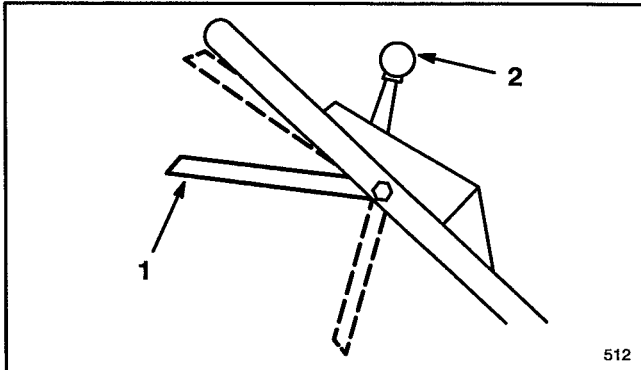
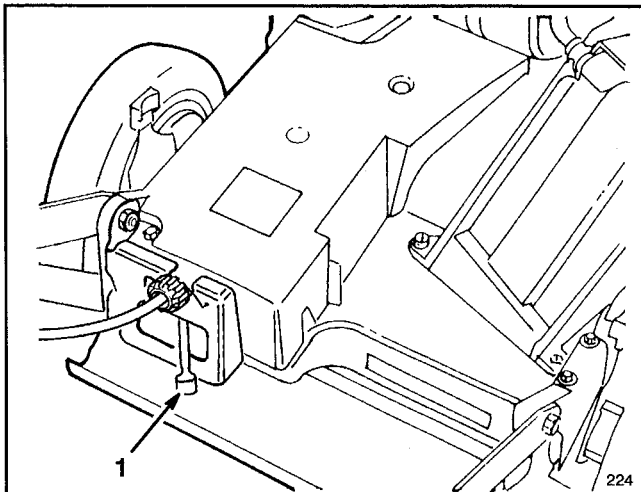
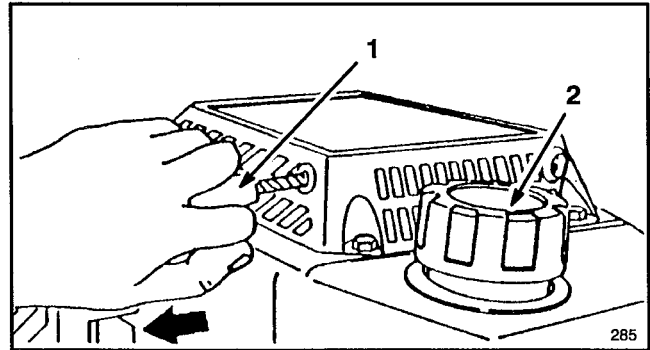

Figure 8
Figure 9
Figure 10
1. Clean around fuel tank cap and remove cap from tank (Fig. 10). Using unleaded gasoline, add fuel to 6 to 13 mm (1/4" to 1/2") from top of tank, not into the filler neck. Do not fill the tank full.
1. **CONTROLS**—Throttle control and blade/self-propelled control bar are on upper handle (Fig. 8). Ground speed control is located at rear of belt cover (Fig. 9). Recoil starter is on top of engine (Fig. 10).
2. Remove cap from fuel tank (Fig. 10) and use pump-type syphon to drain fuel into clean gas can.